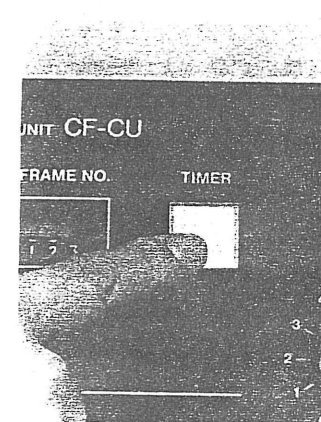

Fig. 52
3. Press the TIMER switch on the power control unit at the same time as the examinee is given an intravenous injection of the fluorescein contact medium. (Fig. 52)